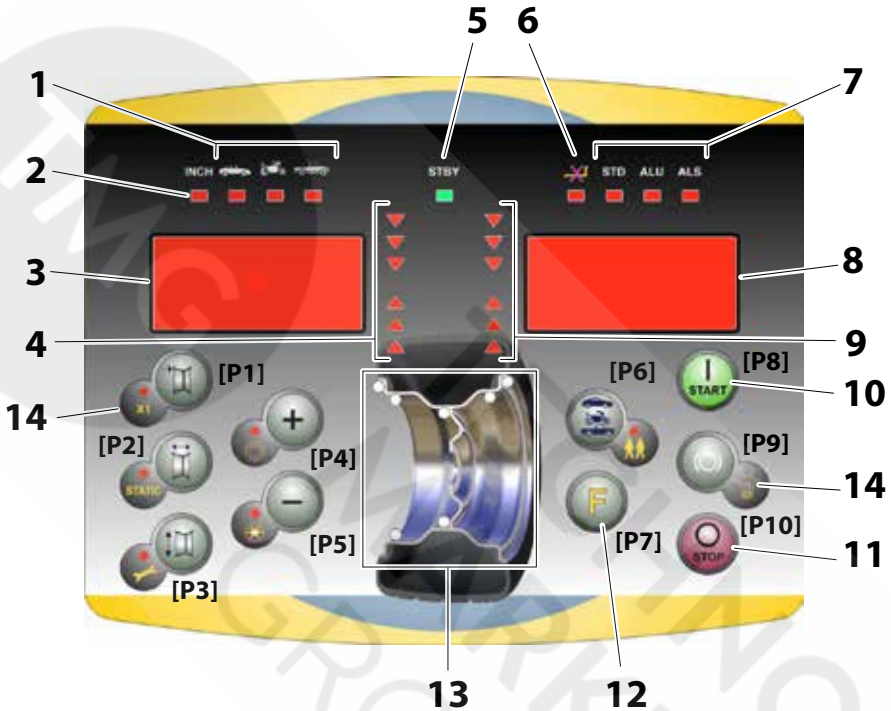

Figure F1: Control Panel.
The machine control panel is shown in Figure F1. The control panel allows the operator to give commands and enter or modify data. The same control panel displays the balancing results and machine messages. The functions of the various sections of the control panel are described in table T1. The rear side of the control panel contains the CPU-C1 electronic control board that collects, processes and displays data.
In this manual, the keys are numbered for convenience from [P1] to [P10] as shown in Figure F1. In addition to the reference numbers of the key, the icons of the same keys are displayed to facilitate reading.
- Program type LED See figure F1, detail [7].
- Weight Imbalance Position LED. See figure F1, detail [13].